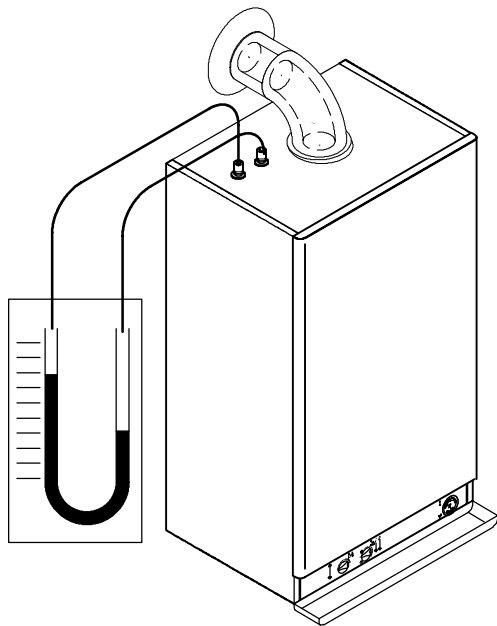

Fig. 71
- 1 Remove the caps of the pressure test points located on the top of the boiler and connect a differential pressure gauge (Fig. 71).